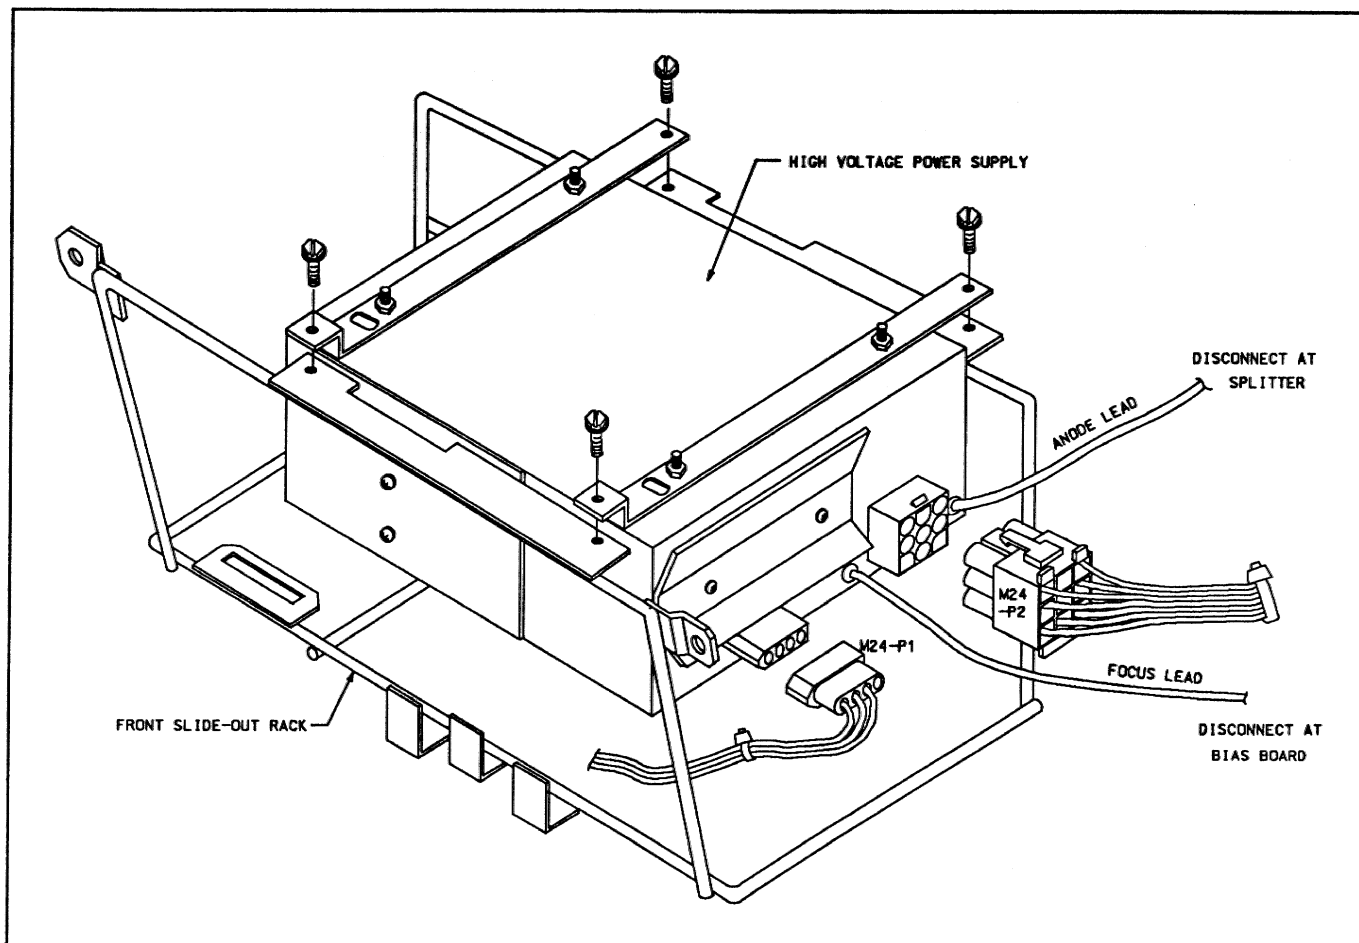

FIGURE 15-2. High Voltage Power Supply Removal
f) Remove the 4 hex head screws as shown in Figure 15-2. Guide the High Voltage Power Supply out the right side of the front slide-out rack.